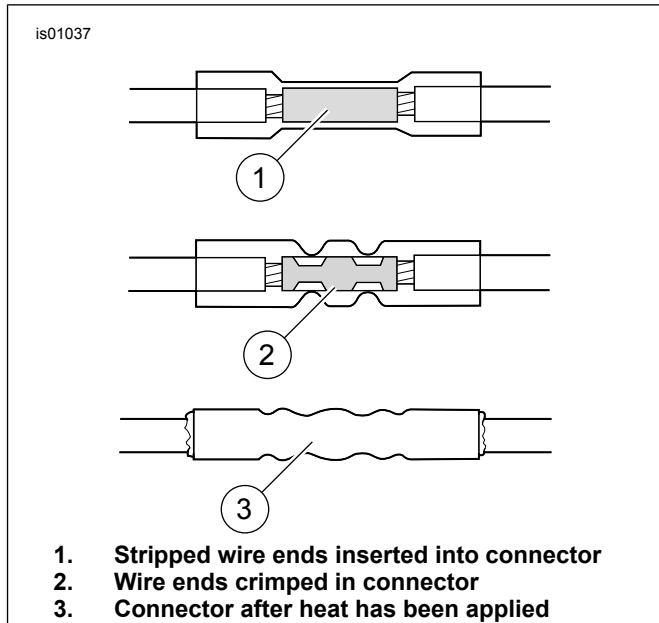

Figure 12. Sealed Splice Connections
3. See Figure 12. For each splice, insert the wire ends into the splice connector as shown.